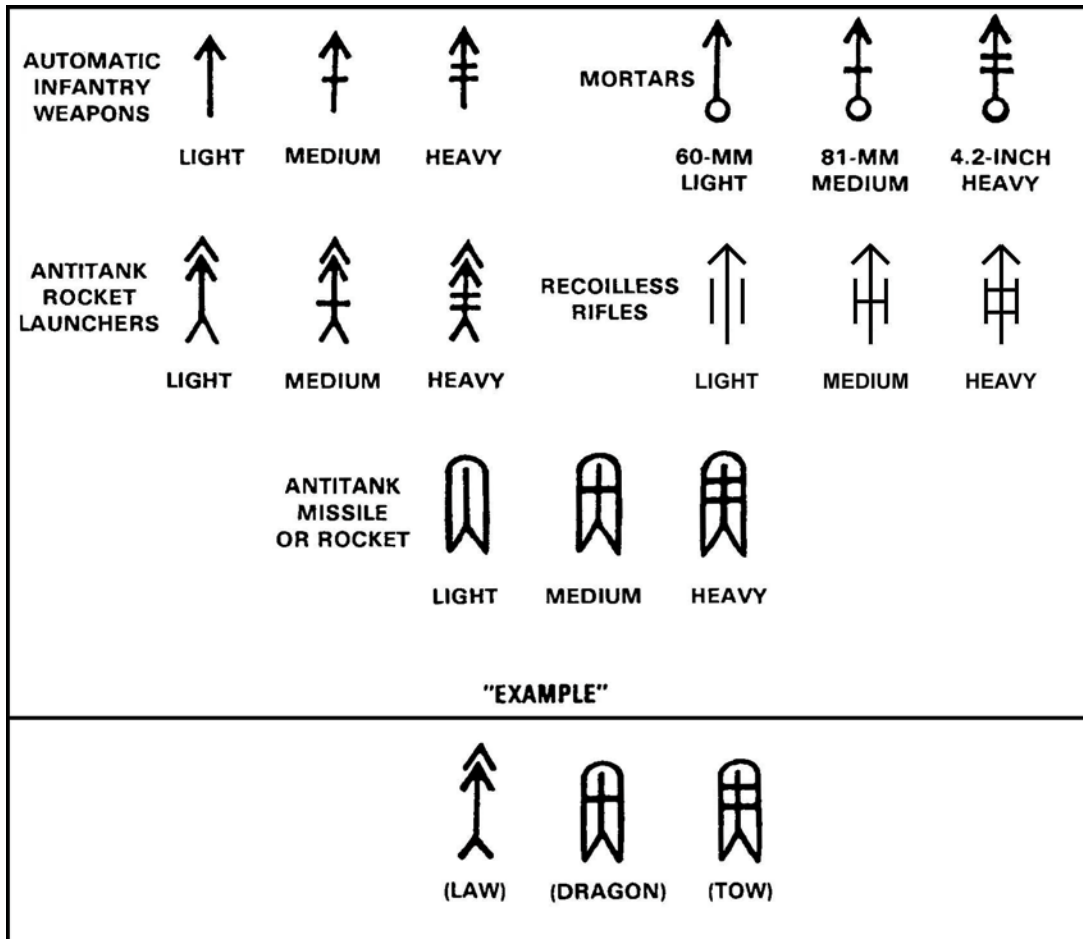

Figure 9. Weapon symbols.
h. Weapons symbols (Figure 9).